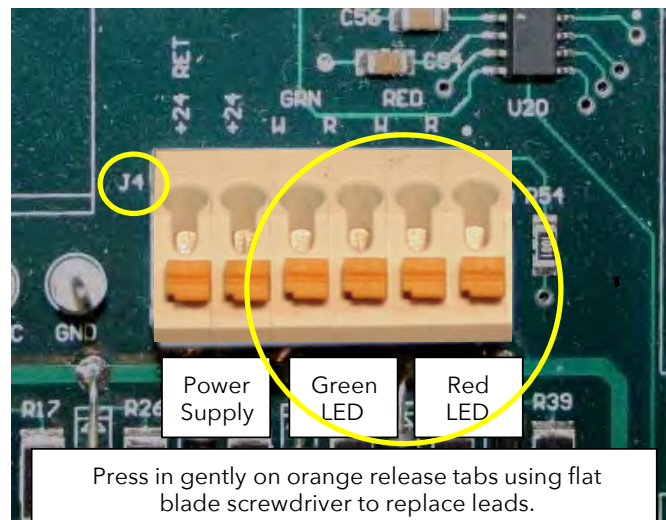

Figure 3. TERMINAL BLOCK J4.
1. Shut off AC machine power by placing the power switch in the OFF (O) position, then unplugging the power cord. Shut off DC machine power by shutting off the external power supply. If possible, move the dehydrator to a work table.
3. Remove both top panels and the front panel. To remove the front panel, it is necessary to disconnect the two sets of electrical leads (4 total) coming from the front panel green and red LEDs, connected to the four terminals on the right side of circuit board terminal block J4. Refer to Figure 3. Press in on the orange release tabs under each lead, then carefully remove the four LED leads from circuit board terminal block J4. Retain the mounting hardware from all three panels. Because they are not interchangeable, keep the mounting hardware separate with each panel to facilitate re-installation.